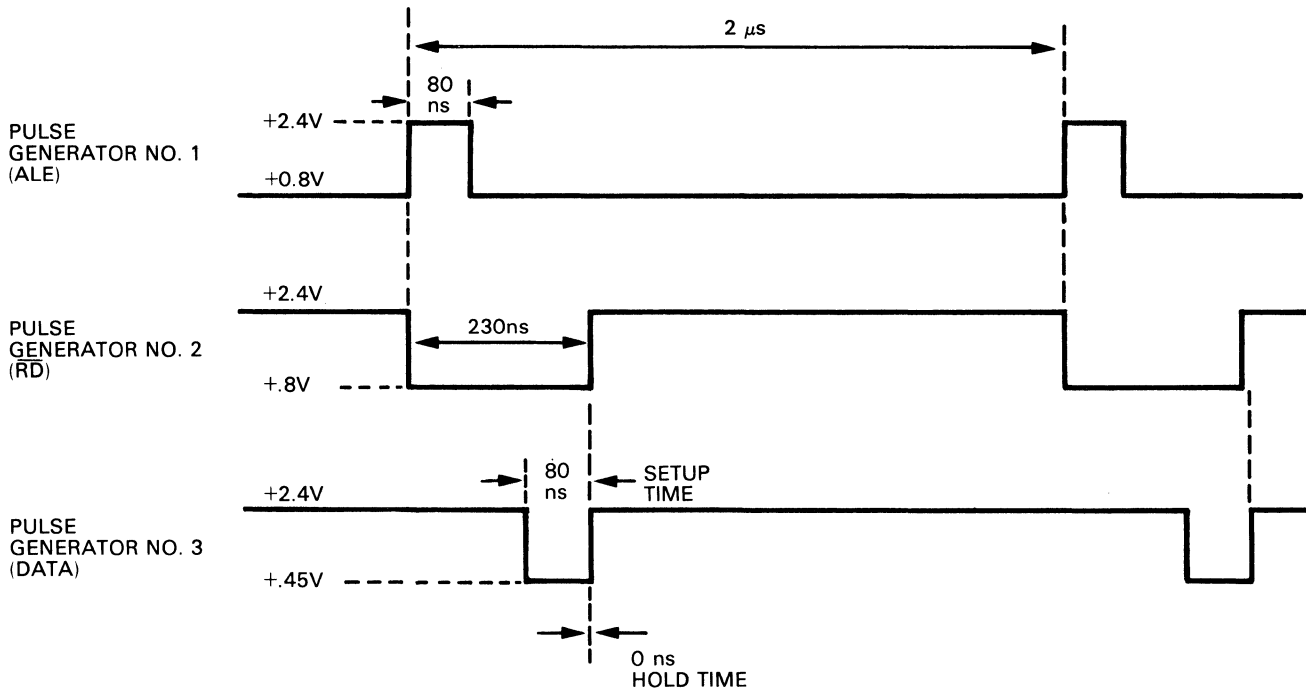

Figure 4-3. Data Lines Test
- f. Adjust pulse generators for test waveforms as shown in figure 4-3.